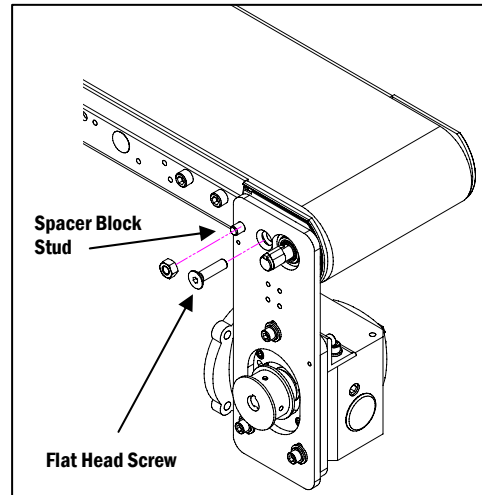

Figure 3
③ Install the Drive Package
- a. Mount the Drive Mounting Plate over the conveyor shaft and Spacer Block Stud (Figure 3).